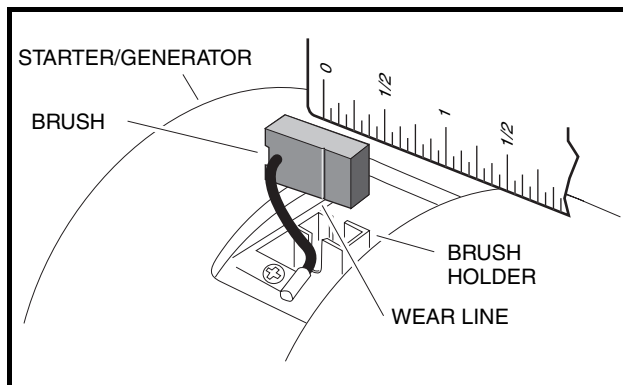

Figure 13-4 Inspect Brushes
2. Check the wear line on the side of the brush. If the end of the brush is within 1/16-inch (1.6 mm) of the wear line, replace all four brushes (**Figure 13-4, Page 13-3**).